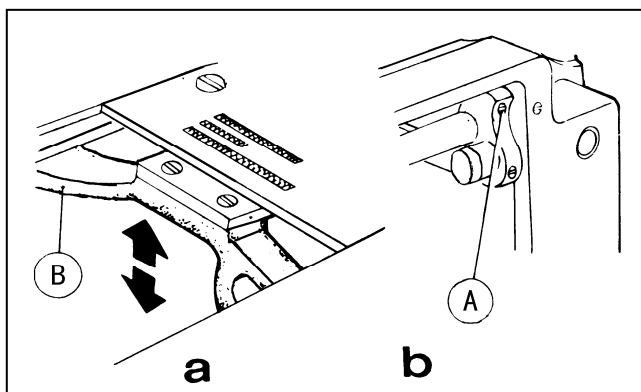

Fig. 22
## 18. ADJUST THE HEIGHT OF FEED DOG ( Fig.22,23 )
- 2) Loosen Screw ( A ) of feed lifting rock shaft crank right ( See Fig.22,b )
- 3) Move Feed Bar ( B ) in the direction shown by the arrow in Fig. 22 ( a ) to adjust the height of the feed dog. The standard height of feed dog is that the top of feed dog is 1mm above Throat Plate Surface ( B ).